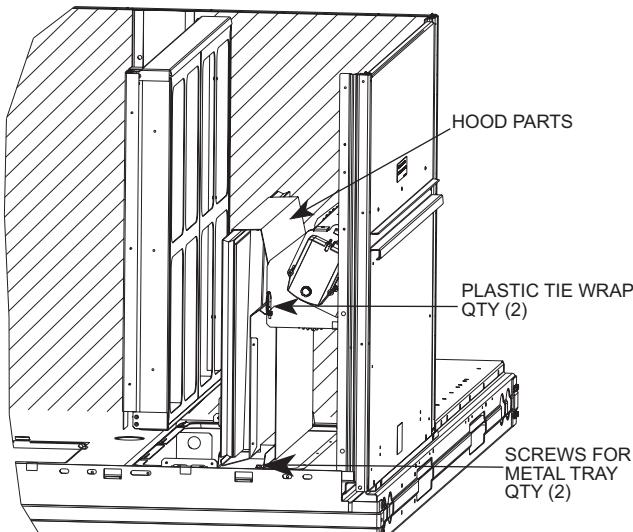

Fig. 14 — Economizer and Two-Position Damper Hood Parts Location
2. Locate the (2) screws holding the metal tray to the basepan and remove. Locate and cut the (2) plastic tie-wraps securing the assembly to the damper. See Fig. 14. Avoid damaging any wiring or cutting tie-wraps securing any wiring.